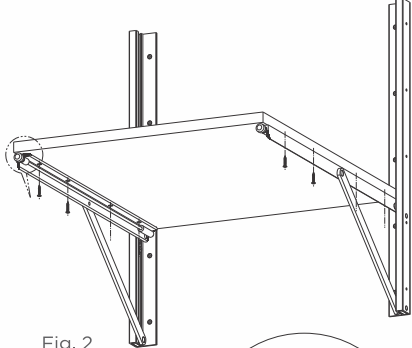

Fig. 2
3. Fit the table top onto the moving bracket with screws as shown in Fig. 2.